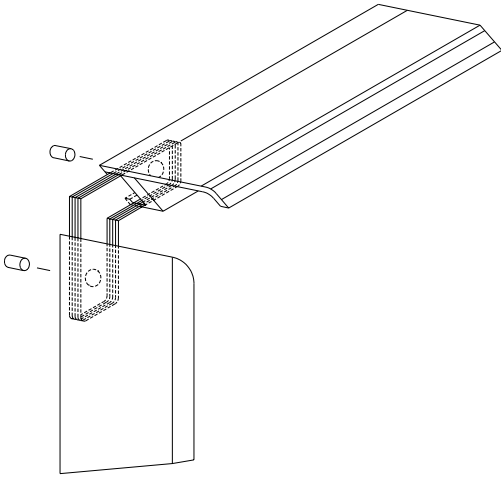

Figure 2.5
2. Assemble the faceplate trim, attaching the mitered corners with the corner brackets. (see Figure 2.5)